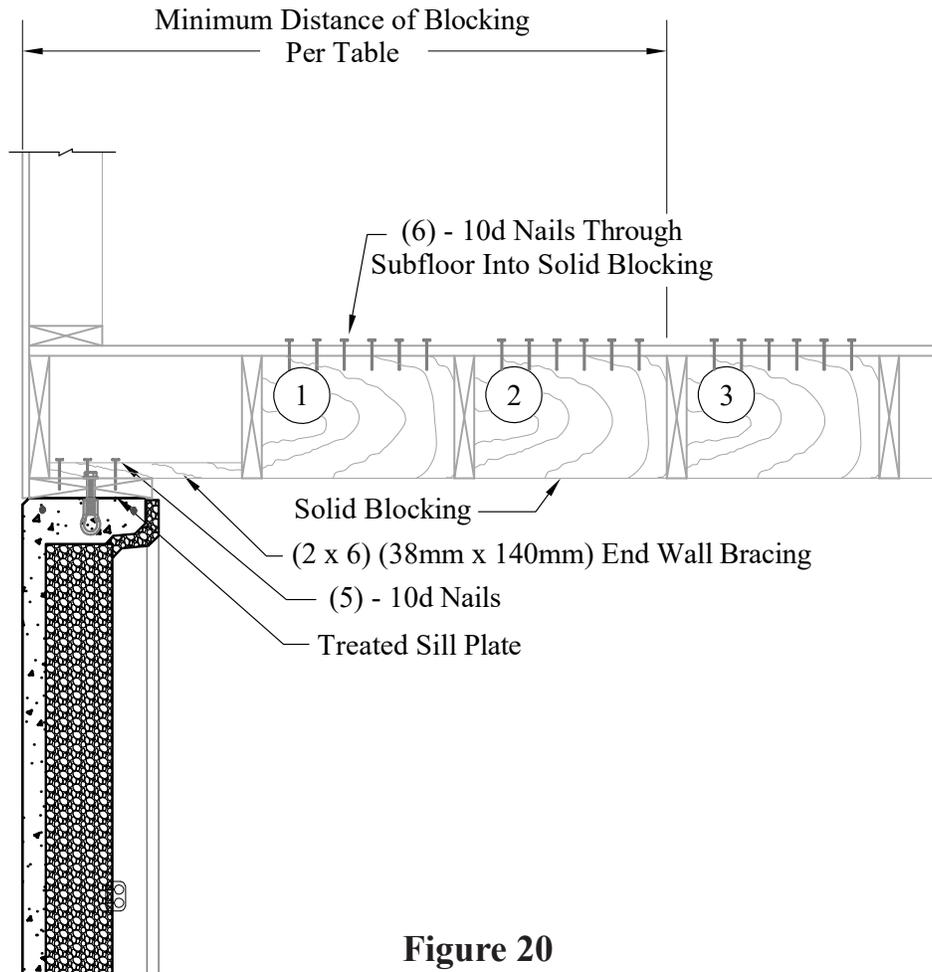
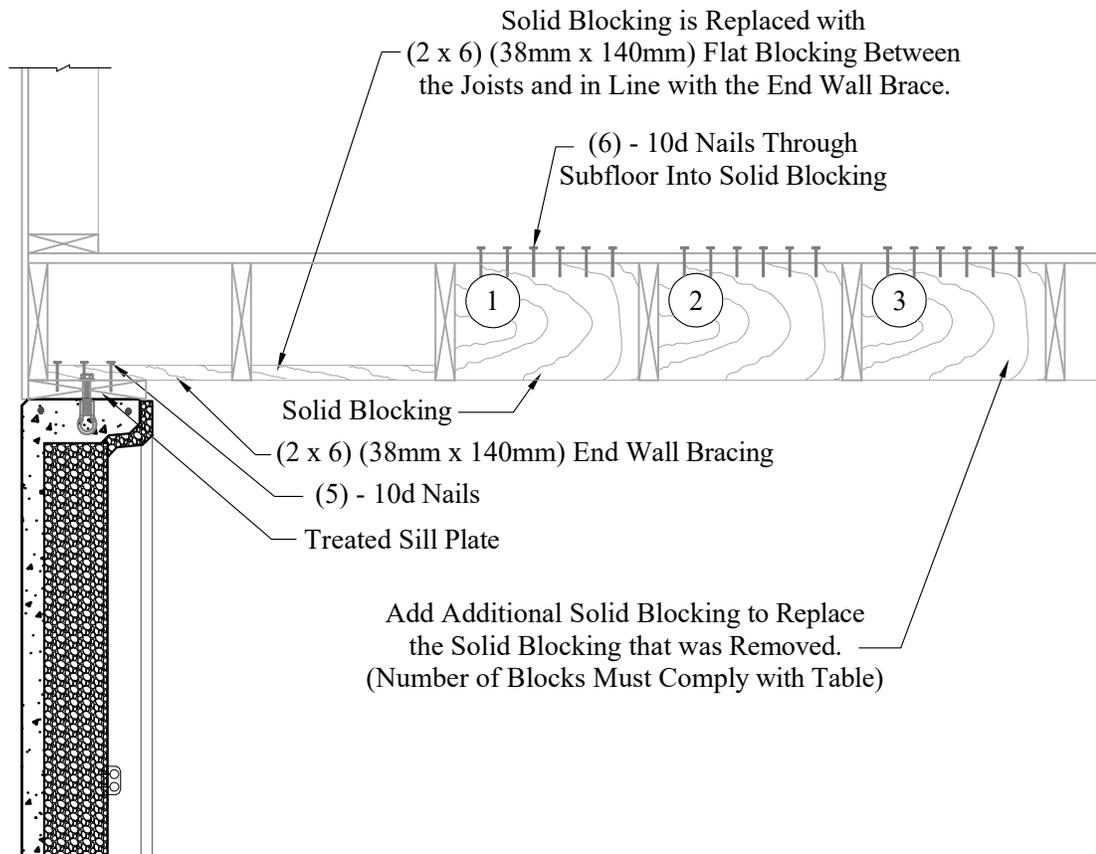

Figure 20
Figure 22
- Nail a 2 x 6 (38 x 140) end wall brace securely to the sill plate with five 10d nails every 48" (1220 mm) on center. (Braces must be within 12" (305 mm) from the interior of each corner.) See Figure 20 on page 30 and Figure 21 on page 31.
To accommodate for HVAC ductwork that is located where Solid Blocking is shown in Figure 20 on page 30 and Figure 21 on page 31, additional blocking is required as shown in Figure 22 (below).
- Solid Blocking is replaced with 2x6 (38 mm x 140 mm) Flat Blocking. (Locate Flat Blocking between the joists and in line with the 2x6 (38 mm x 140 mm) End Wall Braces.) (See Figure 22.)
- When not using the Framing Strap: Nail 2x6 End Wall Bracing to the sill plate using five 10d nails. See Figure 20 on page 30 and Figure 21 on page 31.